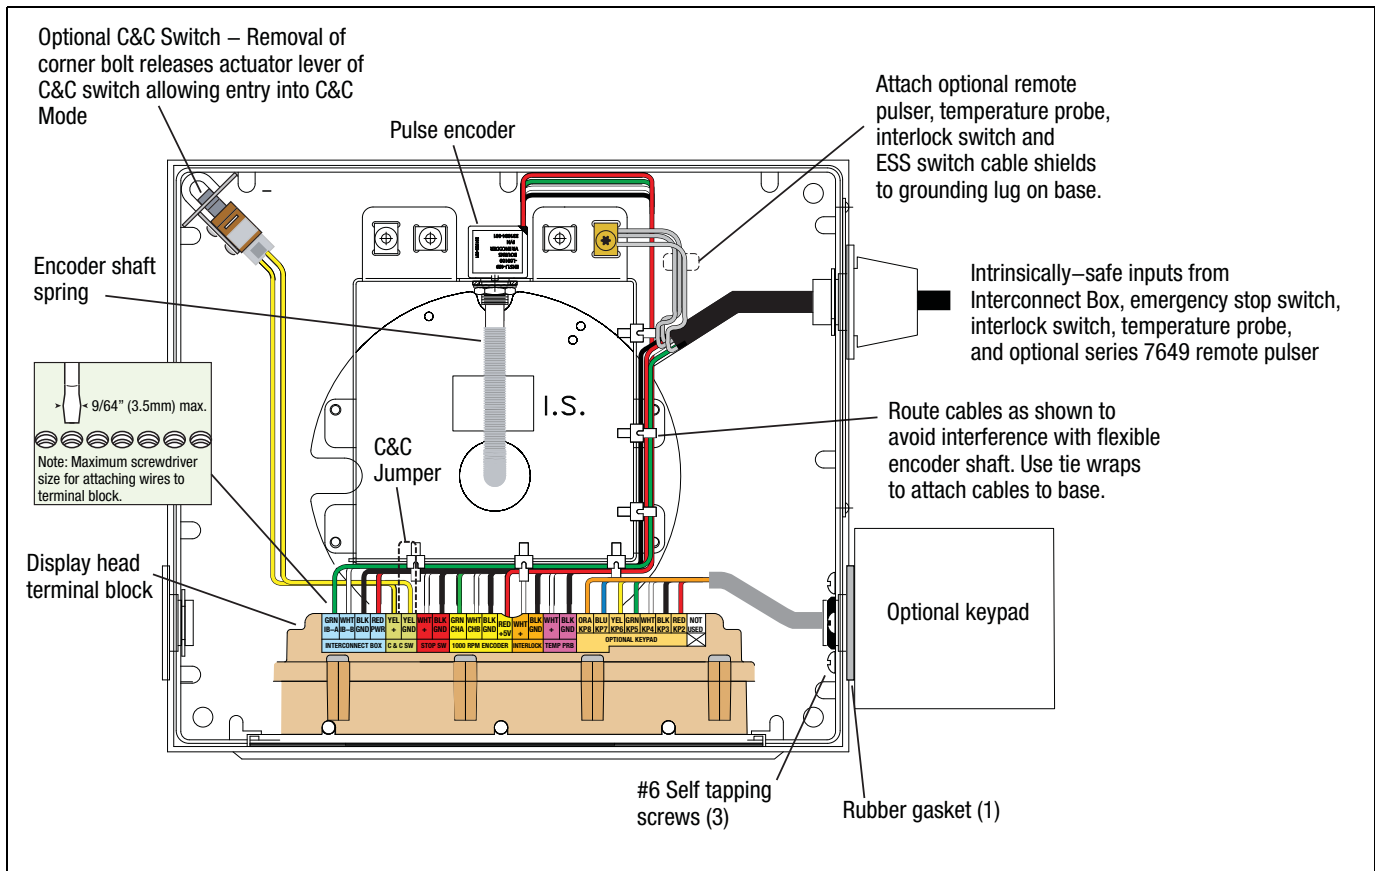

Figure 38. Display Head Cable Wiring And Switch Locations
2. Slide the cord grip nut and then the bushing over the IB cable leads. Pull enough cable through so that the leads reach the terminal block on the display assembly and can be tie wrapped to the pulse encoder mounting base as shown in Figure 38. Slide the tapered end of the bushing into the cord grip, then screw on the cord grip nut and tighten securely.
3. Attach the four-wire IB cable to the terminal block as shown in Figure 38.
4. If you have the optional temperature probe and/or ESS switch, remove the lower cord grip nut and slide it, then the tapered bushing, over the temperature probe cable and/or ESS switch cable. Pull enough cable through so that the leads reach the terminal block on the display assembly and can be tie wrapped to the pulse encoder mounting base as shown in Figure 38. Slide the bushing into the cord grip and then screw the cord grip nut onto the cord grip and tighten securely. Attach the shield of the temperature probe cable to a grounding lug on the Pulse Encoder mounting base.
1. A C&C Mode wire jumper (see Figure 38) - standard configuration. To enter C&C mode, remove either end of the jumper from the terminal block (C&C SW). To exit C&C mode, reconnect the jumper end to the terminal block.
2. An optional C&C corner switch assembly (P/N 845900-018) that fits into one corner of the Display Head's housing (see Figure 38). To enter C&C mode, remove the corner bolt from the Display Head's cover. To exit C&C mode, replace the bolt. When using the corner switch, remove the C&C jumper.
Figure 38 shows the installation and wiring of the optional keypad. To attach the keypad housing mounting screws, you will need to pull/slide up the display assembly away from the Display Head. Insert the keypad wires through the center hole in the gasket, slide the gasket down against the keypad and align its three holes with the mounting holes in the keypad. Hold the keypad against the Display Head and screw in the 3 mounting screws, replace the
display assembly and then connect the keypad wiring to the terminal block as shown in Figure 38. The screws are self-tapping. The user may want to pre-tap the holes using the screw to ease installation.